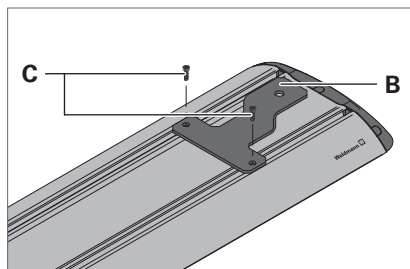
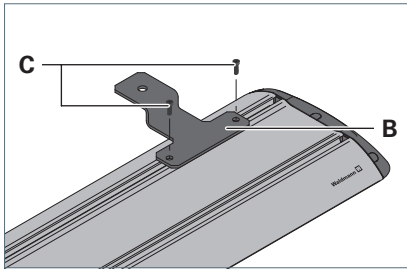

Fig. 6: Mounting the bracket for mounting type "Top, fixed," 1st option.
Fig. 7: Mounting the bracket for mounting type "Top, fixed", 2nd option.
- Mount the two enclosed brackets **B** on the luminaire using the enclosed screws **C** and the slide nuts and tighten the screws, see Fig. 6 or see Fig. 7.